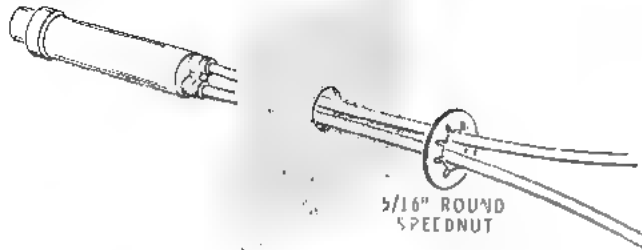

Figure 14
- () Using a round speednut, mount the pilot lamp in position DL. Refer to Figure 14.
- (24) () Connect one lead of the pilot lamp to L2 (S).